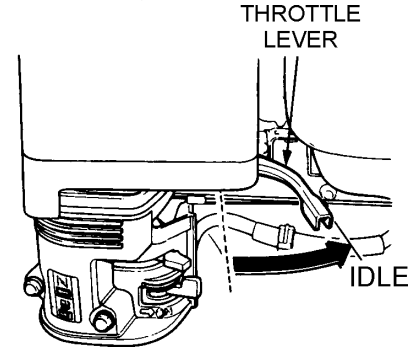

Figure 13. Throttle Lever (Idle)
- Move the throttle lever to the **IDLE** position (Figure 13) and run the engine for three minutes at low speed.